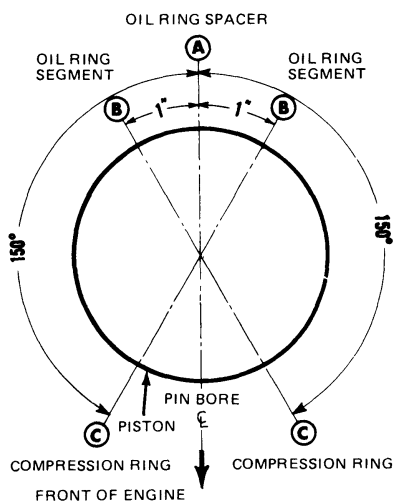

FIG. 40 Piston Ring Spacing
3. Make sure the ring gaps (oil ring spacer-A, oil ring-B, compression ring-C) are properly spaced around the circumference of the piston, (Fig. 40).